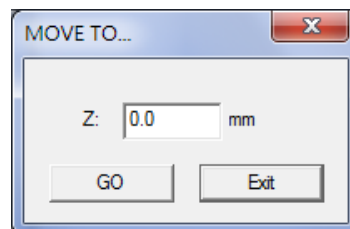

Fig. 1.7.41
1. Click “MOVE TO...” button and input the value in the dialog box like Fig.1.7.41 and click “GO,” the Z Axis will move to that specific position. The moving speed can be adjusted from “Speed” parameter.